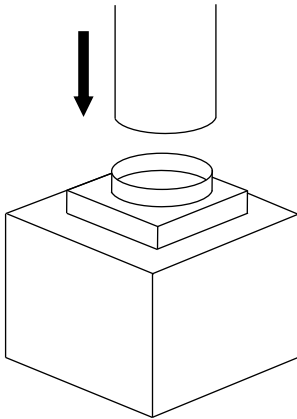

Fig 11
3. Install the ducting work up to the air inlet of the motor (Fig 11).